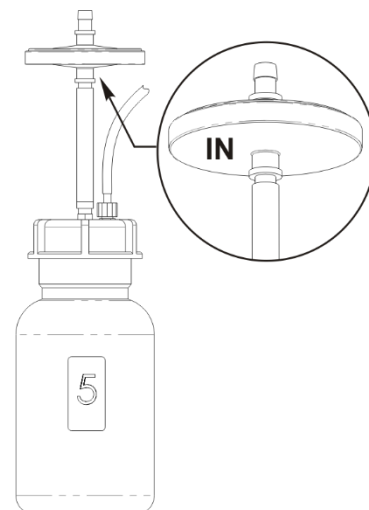

Fig. 11. Filter mount
- 8.6. Filter replacement (fig.11)
Attention! Maintain the mounting of the filter according to fig. 11. The “IN” marking should be located on the side of the inlet tube (facing the bottle).